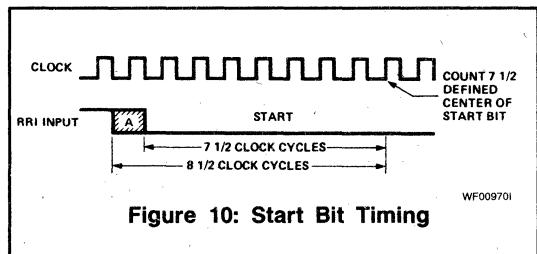

Figure 10: Start Bit Timing
The receiver uses a 16X clock for timing. (See Figure 10.) The start bit (A) could have occurred as much as one clock cycle before it was detected, as indicated by the shaded portion. The center of the start bit is defined as clock count 7½. If the receiver clock is a symmetrical square wave, the center of the start bit will be located within $\pm 1/2$ clock cycle, $\pm 1/32$ bit or $\pm 3.125\%$. The receiver begins searching for the next start bit at the center of the first stop bit.